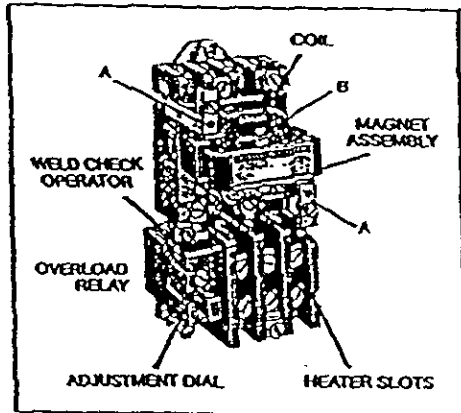

Figure 1. Typical 300-Line magnetic starter.
- Press against coil while putting up slightly on coil retainers (A-Figure 1) and move retainers away from coil.
- Withdraw spring clip (B-Figure 1) and remove armature from movable arm.
**Note:** For starters with one or more normally closed contacts, perform steps 1 and 2 shown under *Coil Replacement*. Withdraw spring clip (B-Figure 1) and remove armature, coil, and magnet from device. Remove return spring from center of movable arm. Remove molded cover and stationary contacts before lifting movable arm from device.